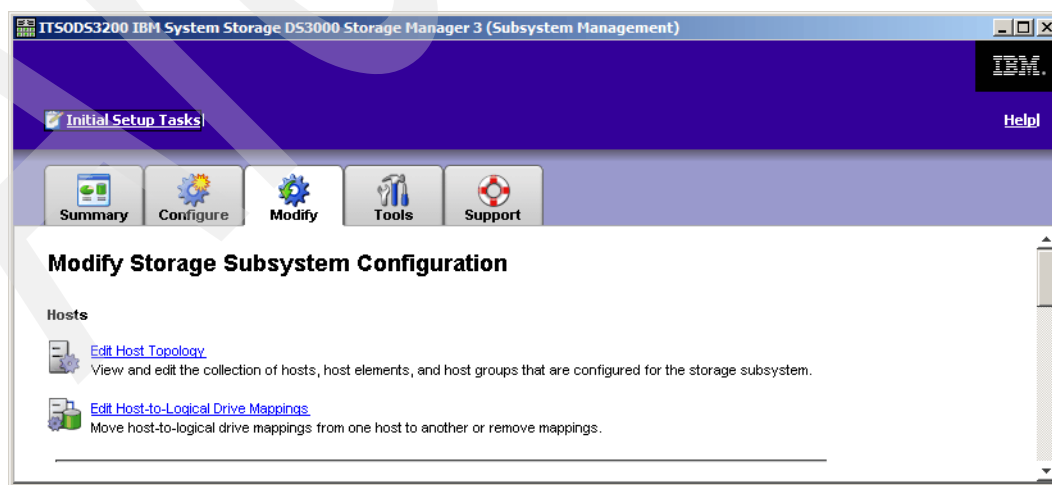

Figure 20-42 Edit host topology
3. In the DS3200 Storage Manager Subsystem Management window, on the Modify tab, select **Edit Host Topology**, as shown in Figure 20-42.